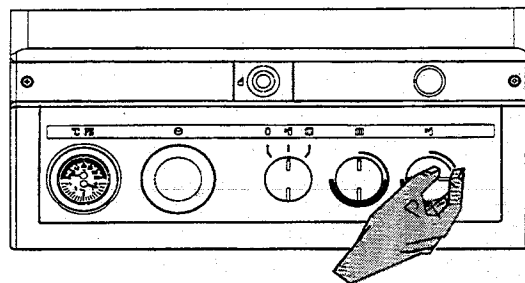

Fig. 4
1.3 The temperature of water at the tap can be varied by adjusting the water flow rate at the tap. The Hot Water Temperature control knob (3) will govern the maximum temperature. Turning the knob clockwise increases the setting, anticlockwise decreases setting. (Fig. 4)